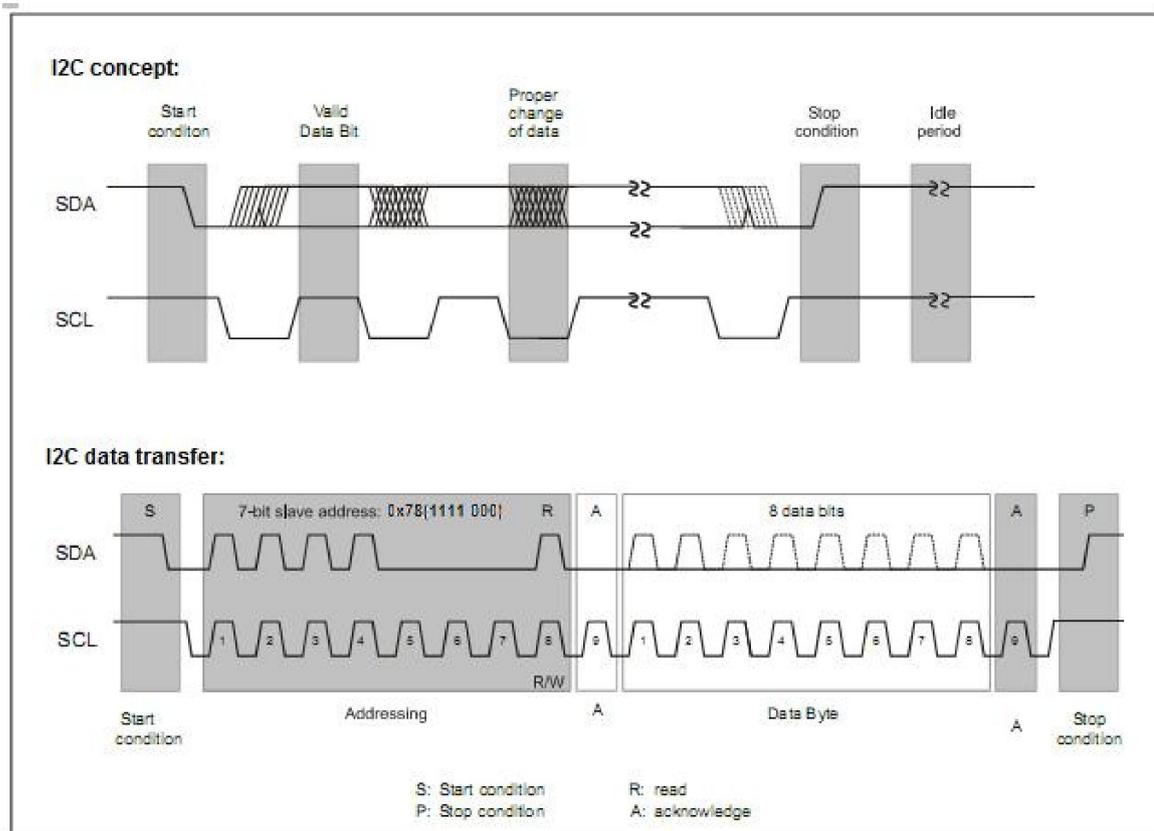

Figure 3: I2C standard communication protocol
I2C standard protocol is presented in figure 3.
- **START condition (S):** Each data transfer starts with the start condition, which is always sent by the master. This start condition acts as a signal to all I2C connected devices giving information that there will be something transmitted. Start condition is defined as transition of HIGH to LOW on SDA line when SCL line is HIGH (see figure 3).
- **STOP condition (P):** Each data transfer stops with stop condition, which is also generated by a master, when a data transfer has finished. Stop condition is defined as transition of LOW to HIGH on SDA line when SCL line is HIGH (see figure 3).
- **Valid data :** Data is always transmitted in bytes (8 bits) starting with the MSB (most significant bit). One data bit is transferred with each clock pulse. Transmitted data are valid (after generating start condition) only during HIGH period of clock and data can changes can be done during LOW period of clock (see figure 3).
- **Acknowledge (A):** Each sent byte needs to be followed with the acknowledge bit generated from the receiver that correct data has been received. Acknowledge means also that device can continue with further data transfer. For that purpose must master generate extra clock pulse. Transmitter releases clock HIGH during acknowledge clock pulse, if not then further byte will not be sent.
- **Slave address:** After start condition master sends addressing byte - slave address to define with which slave device he wants to communicate. This addressing byte includes 7 bit slave address (up to 128 devices) + 1 R/W bit (data direction bit). If R/W bit is set to "0" (W) then master wishes to transmit data to selected slave. If R/W bit is set to "1" (R) then master request data from the slave. The addressed slave answers with an acknowledge, all other slaves connected with the I2C-bus ignore this communication.
In figure 3 is presented complete data transfer. After generating start condition master also sends slave address with data direction bit (R/W), which gives read or write transfer. Addressed slave replies to this always with acknowledge (A) first. Now can be transferred unlimited numbers of data (bytes) which needs to be always confirmed with acknowledge bit. This transfer can be stopped by the master with generating the stop condition. If master wishes to communicate also with other slave address, it can generate also a second start condition without stopping the first one.